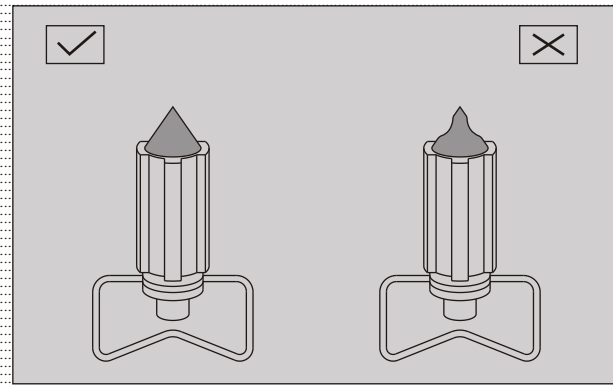

Fig. 4.35
- If needle valve assembly is wornout as shown (Fig. 4.35) replace it with a new one.